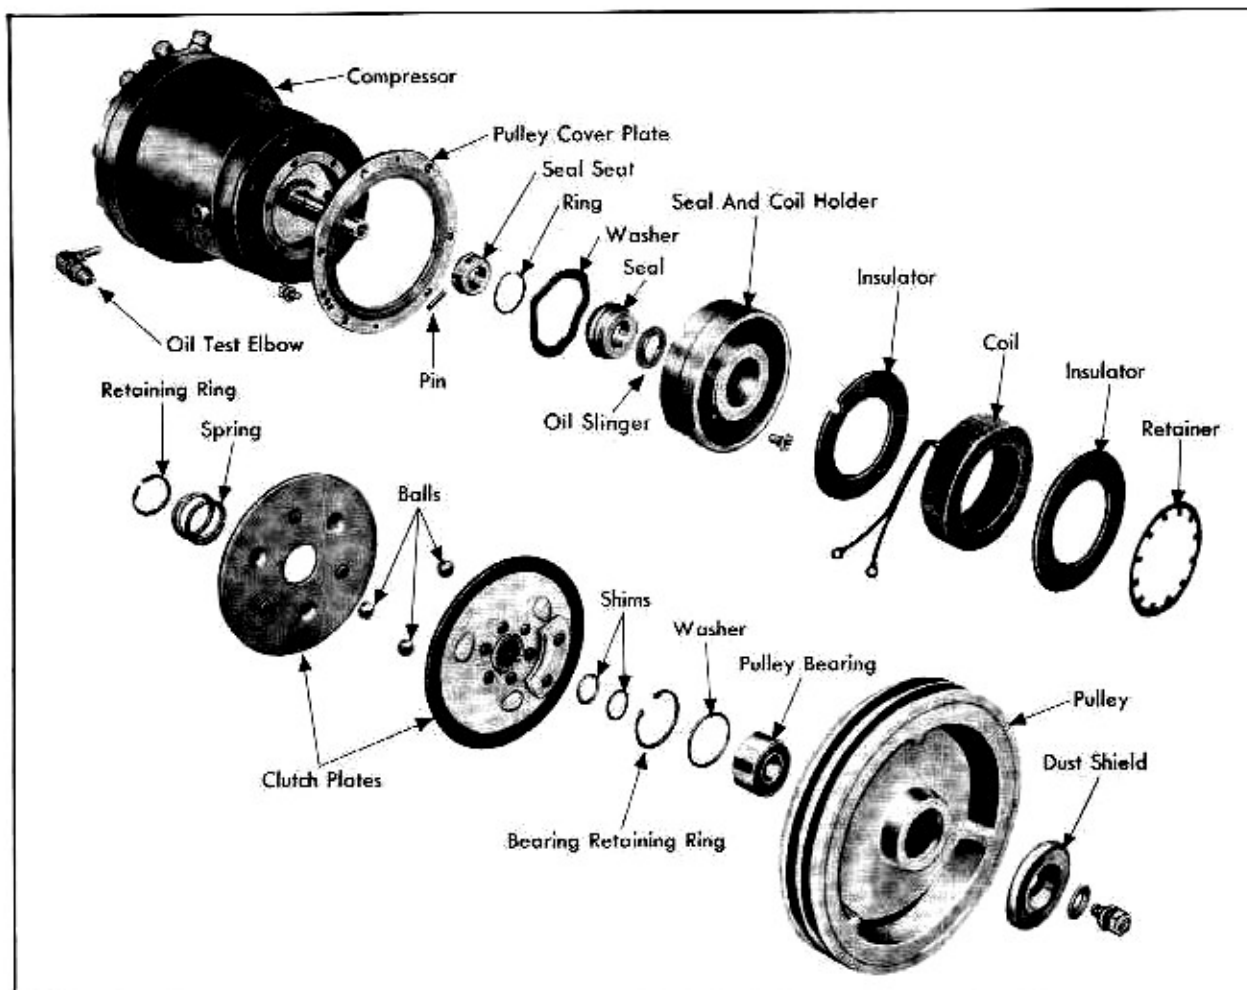

Fig. 16-A-7 Clutch Assembly Disassembled
3. Remove bearing from pulley housing with fingers or by tapping lightly with block of wood at outer race. Bearing is installed with only a snug fit. Fig. 16-A-9.